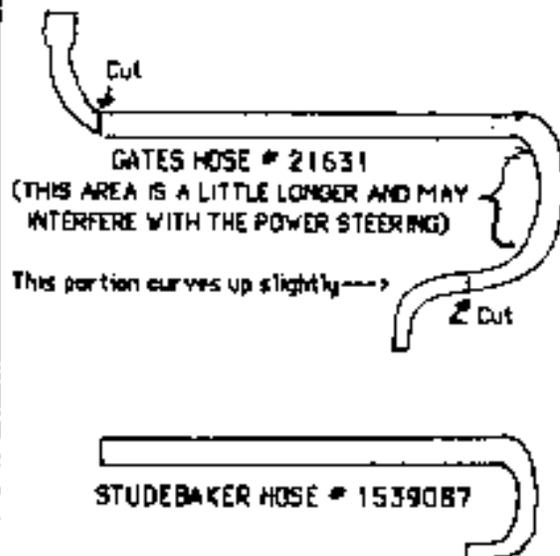

FIGURE 1. ambrogio@ms
*Enclosed are your Studebaker hoses along with Gates aftermarket hoses 20637 and 21631. The Gates hoses have been compared to your samples and are as similar in configuration as possible. Hose 20637 will probably have to be cut slightly to fit. (NOTE: This is the lower hose and is nearly identical in shape to the original Studebaker hose I installed this one on my car, although it was a very tight fit on the water manifold.) The other hose, 21631, will have to be cut an or close to the indicated areas and one end is 1 1/2" I.D. compared to the 1 9/16" I.D. on the straight arm of the sample. I do not anticipate a problem with the I.D. difference. (NOTE: This is the upper hose. I have not tried this one yet. See Figure 1 below for additional information.)*